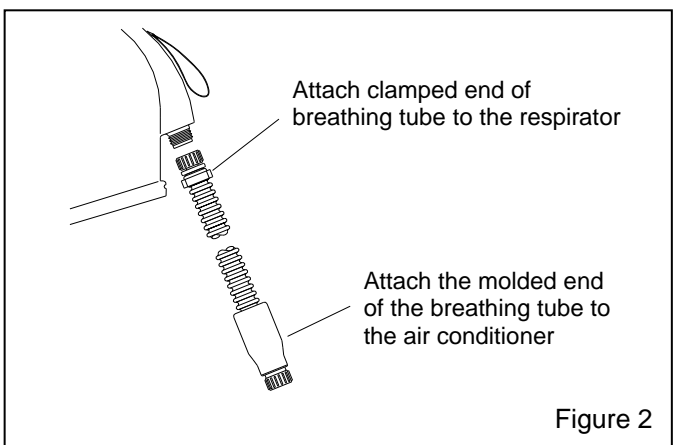

Figure 2
**3.1.1** The breathing tube has a clamped-on end and a molded-on end. Attach the molded-on swivel connector to the air conditioner's outlet as shown in Figure 2.
**3.1.2** Attach the clamped-on end to the threaded air inlet fitting at the back of the helmet as shown in Figure 2. Do not over-tighten; hand-tight is sufficient.